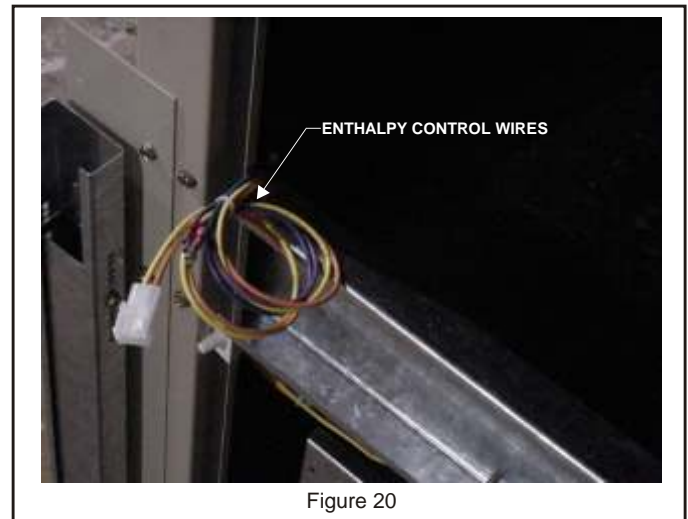

Figure 20
13. If the A7 enthalpy sensor was retained, locate the blue and purple wire harness on the top deck. Remove the intake air access panel and route blue and purple harness to the A7 enthalpy sensor harness and connect P104 to J193. Secure excess wiring. See **Figure 20**.